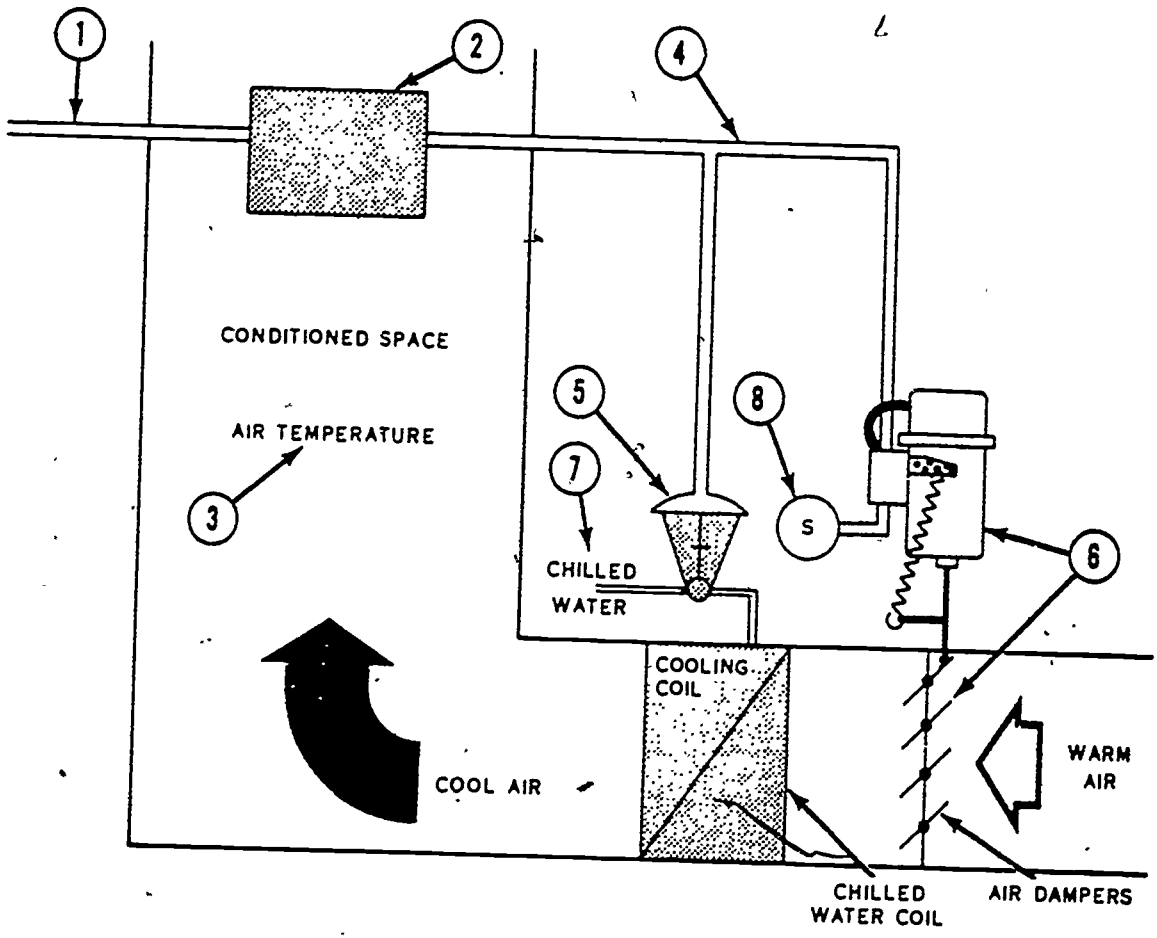

Figure 2-47. Control loop showing control terms.
Controls Terms. Refer to the numbered schematic in figure 2-47 for additional clarification of terms.
- Supply (main air) pressure: The air pressure supplied to a controller. It is usually 15 to 20 psig (see number 1, fig. 2-47).
- Controller: An instrument that senses variations in the controlled variable and produces a corresponding control action: e.g., thermostat, humidistat, or pressure controller (see number 2, fig. 2-47).
- Controlled variable: That which is being controlled—air temperature, relative humidity, pressure (see number 3, fig. 2-47).
- Control (branch line) pressure: The output air pressure from a pneumatic controller (see number 4, fig. 2-47).
- Controlled device: The final control element, such as a valve or damper, which is actuated by the controller and regulates the flow or effect of the control agent (see number 5 or 6, fig. 2-47).
- Control agent: The medium regulated by the controlled device—such as steam, hot water, chilled water, and brine—that effects changes in the controlled variables (see number 7, fig. 2-47).